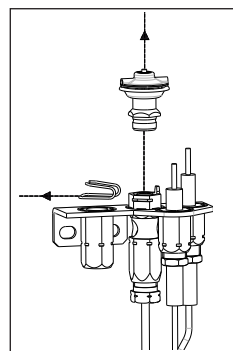

fig. 1
- 3 The pilot hood is held in place by spring. First remove the spring, then remove the hood by pulling it up from the pilot bracket (fig. 1).